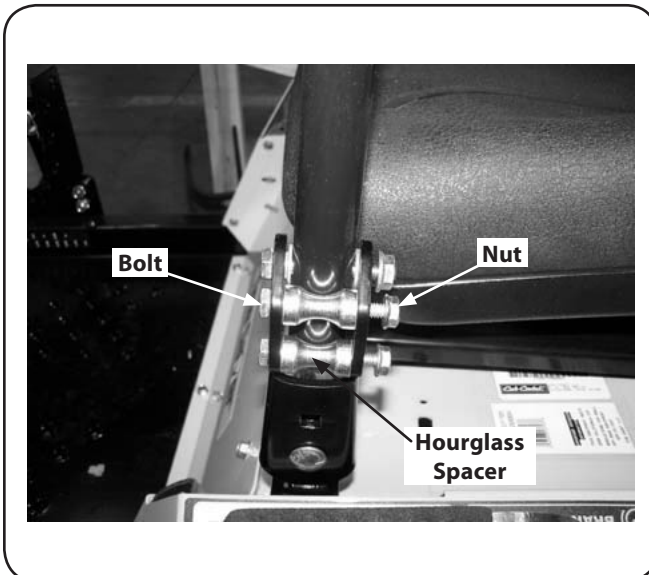

Figure 1-5
2. From the outside, insert the bolts through the hourglass spacers and the holes of the pivot bracket. Secure with the flange lock nuts. See Figure 1-5.